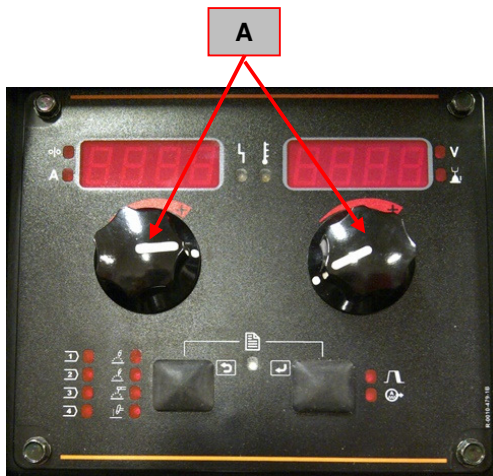

Figure 14
- Using the 2mm allen wrench remove the two knobs (A). See **Figure 14**.